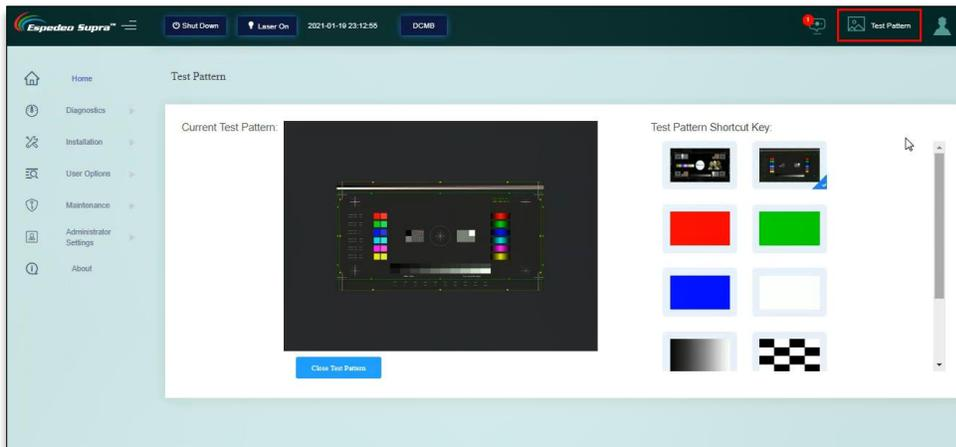

Figure 61:
- Check the left and right horizontal degree, while projecting the test pattern image on the screen. Check the horizontal degree of the projector again to make the image edge parallel to the screen edge (for domestic installation, the lower edge of the screen is usually used as the reference standard). Refer to **Figure 61**.